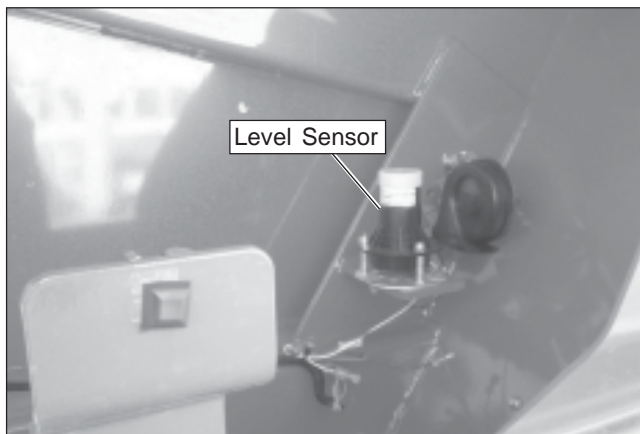

Figure 7.14 – Level Sensor
4. Open the rear door on the left side of the machine to access the level sensor (refer to Figure 7.14).